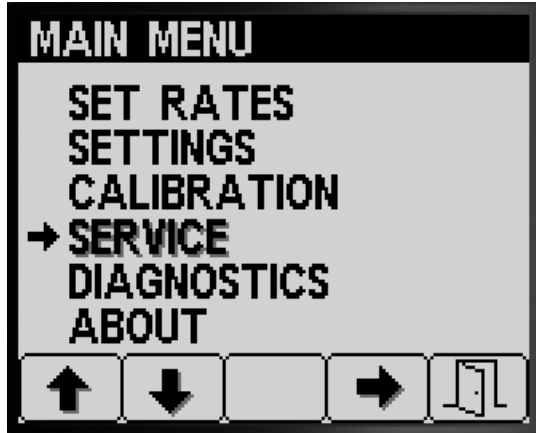

Figure 79
1. To access the Service screen press button 2 on the Main Menu screen to navigate to the SERVICE option (Figure 79); refer to Accessing the Main Menu Screen (page 3).
2. Press button 4 to select SERVICE sub-menu (Figure 79).